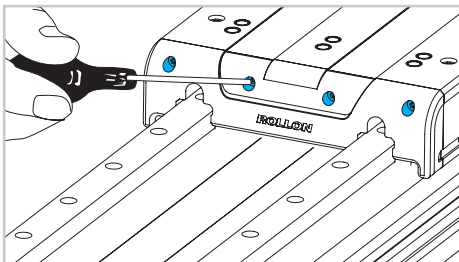

Fig. 2
- 1) Remove the front panel on both ends by untightening the front screws (Fig. 2).